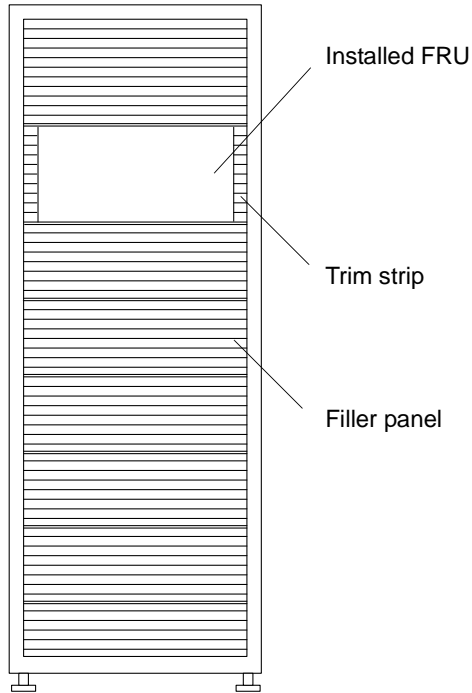

FIGURE 4-5 Filler Panel and Trim Strip Location
**5. Remove the filler panel located where you will install the FRU (FIGURE 4-5).**
**9. Install the trim strips (FIGURE 4-5).**
**3. Remove the trim strips beside the FRU (FIGURE 4-5).**
**6. If you are not replacing the FRU, install a filler panel over its previous location (FIGURE 4-5).**